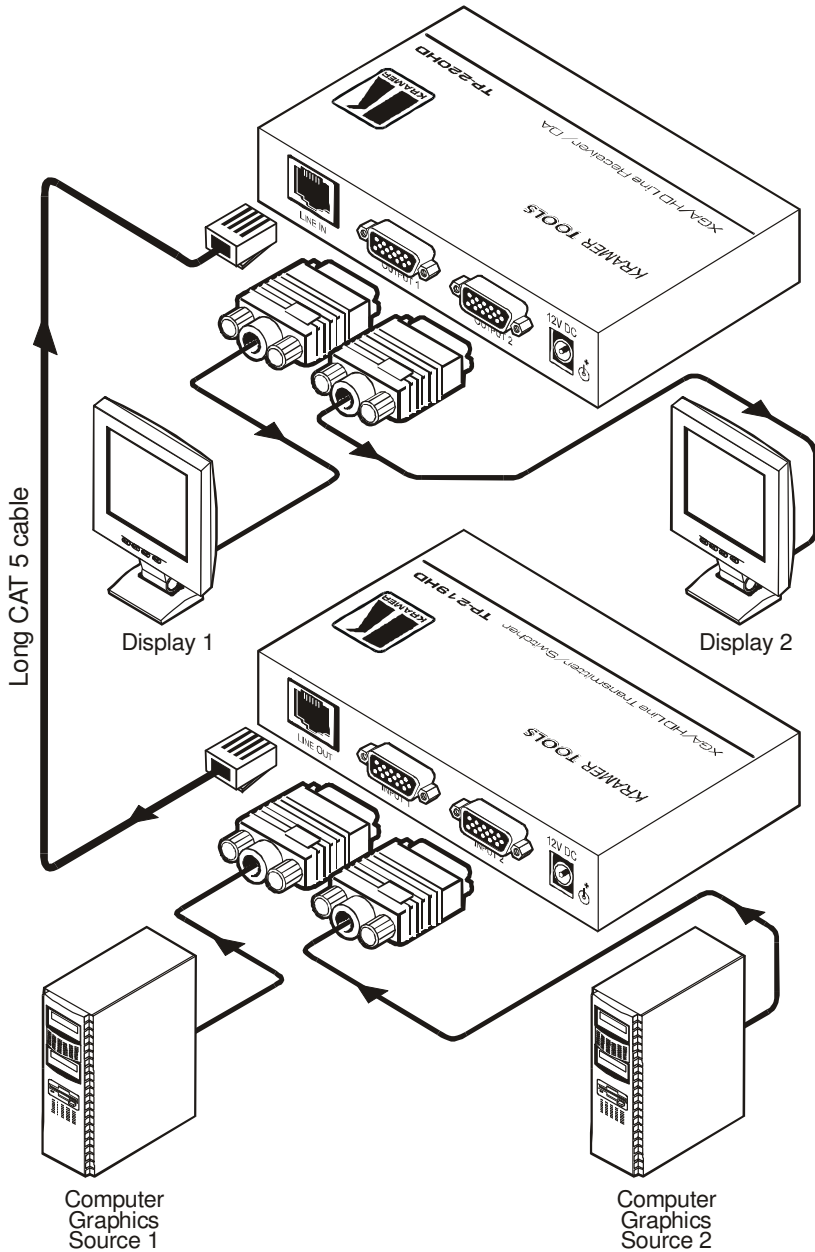

Figure 7: Connecting the TP-219HD / TP-220HD XGA System
To connect the **TP-219HD** to the **TP-220HD**, as the example in Figure 7 illustrates, do the following:
6. Connect the 12V DC power adapter to the power socket and connect the adapter to the mains electricity on both⁷ the **TP-219HD** and the **TP-220HD** (not shown in Figure 7).